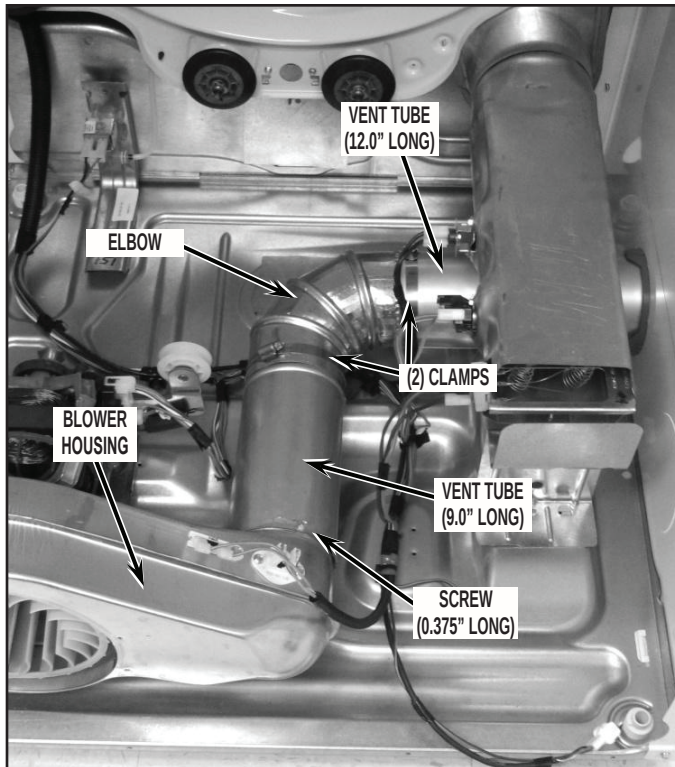
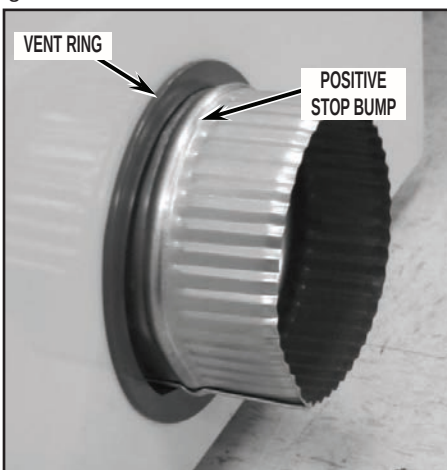

FIGURE 25
FIGURE 26
5. Assemble the 305 mm (12.0") long vent tube and elbow from kit together using clamp included in kit. Tighten clamp to hold sub assembly together. See *Figure 25*.
6. Feed this vent tube sub-assembly into the dryer and out the right side panel exhaust hole. Use clamp included with kit, slide it onto the elbow and press the elbow onto the 229 mm (9.0") vent tube. See *Figure 25*.
7. Assure the positioning of the exhaust vent assembly and securely tighten both clamps. See *Figure 25*.
8. From the outside of the dryer, install the vent ring included with kit by sliding over exhaust vent tube and snap into place. See *Figure 26*.
9. Assure the positioning of the exhaust vent assembly, making sure the positive stop bump on the 305 mm (12.0") long vent tube is on the outside of the dryer. See *Figure 26*. Securely tighten both clamps. See *Figure 25*.